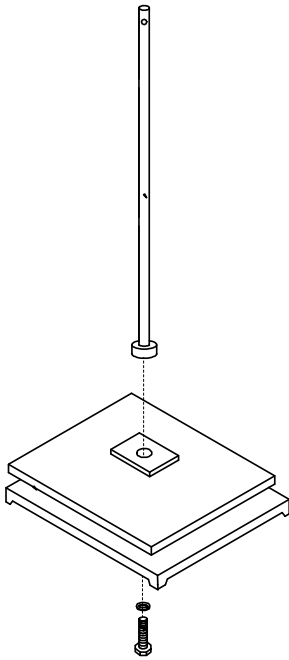

Figure 1
1. Connect bottom post to base and base plate using bolt, nut and collar. (See Figure 1)